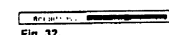

Fig. 32.
- Using **Δ** or **∇**, select the item you want to adjust and press **OK**. The selected item changes colour. (See Fig. 32)